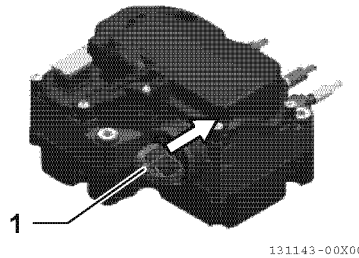

Fig.25-43
- 5 - Push the filter element drawing-out tool (1, Fig.25-43) to the position where it can be inserted.